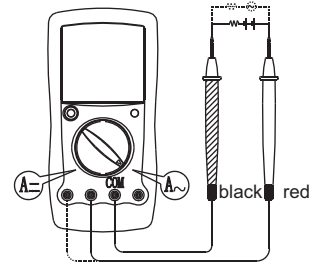

Figure 4
C.Measuring DC Current (See Figure 4)
D. Measuring AC Current (See Figure 4)